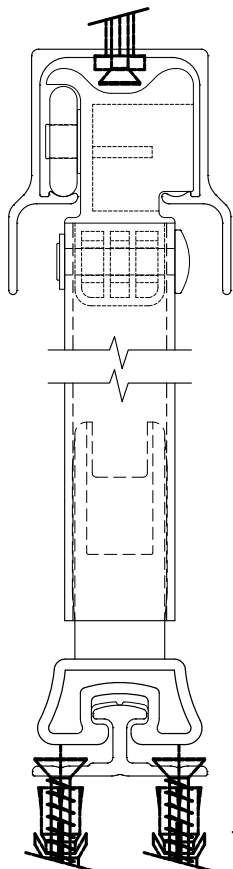

Fig. 3
b) Maneuver the door system into the reveal, and begin to fit the fixings into the head rail/soffit and track/floor as shown.(Fig. 3)